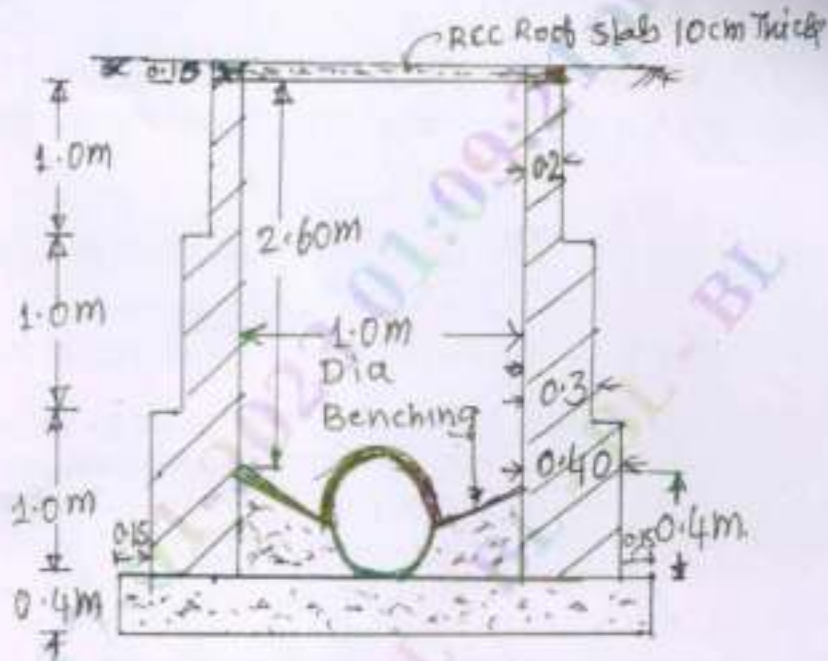

Fig. Q3 Cross – Sectional details
- 3 Estimate the quantities of the following items of work for the manhole shown in Fig. Q3.